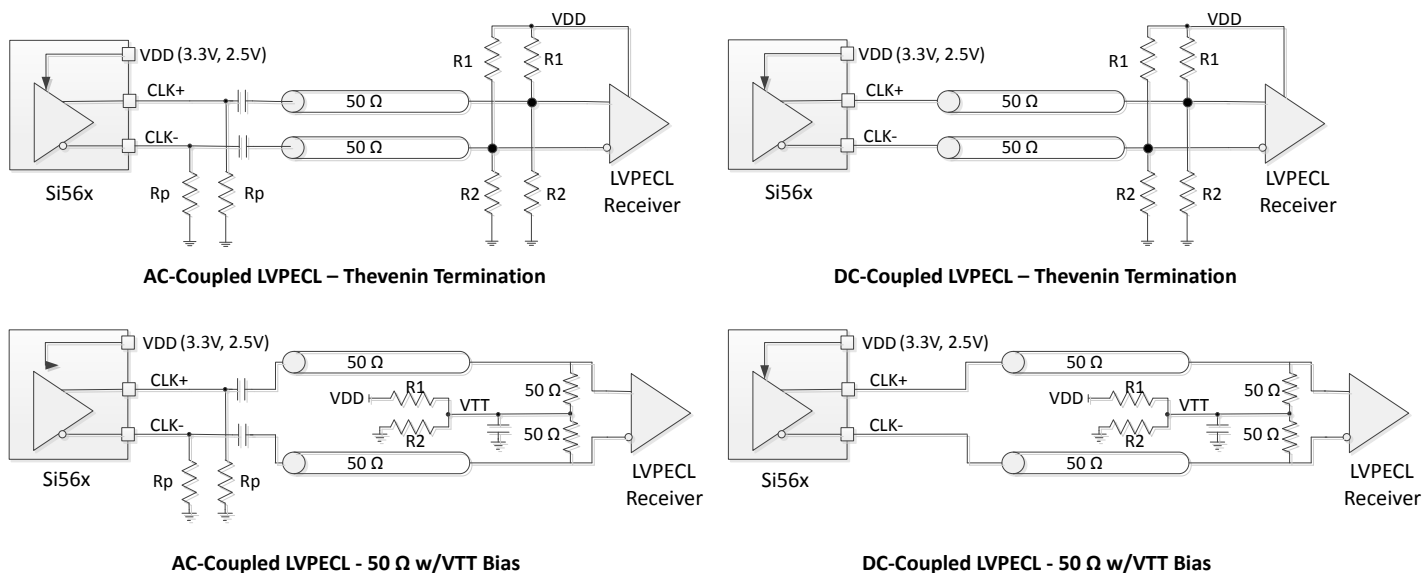

Figure 4.1. LVPECL Output Terminations
- R_{term} = 50 Ω to V_{DD} - 2.0 V (see Figure 4.1).